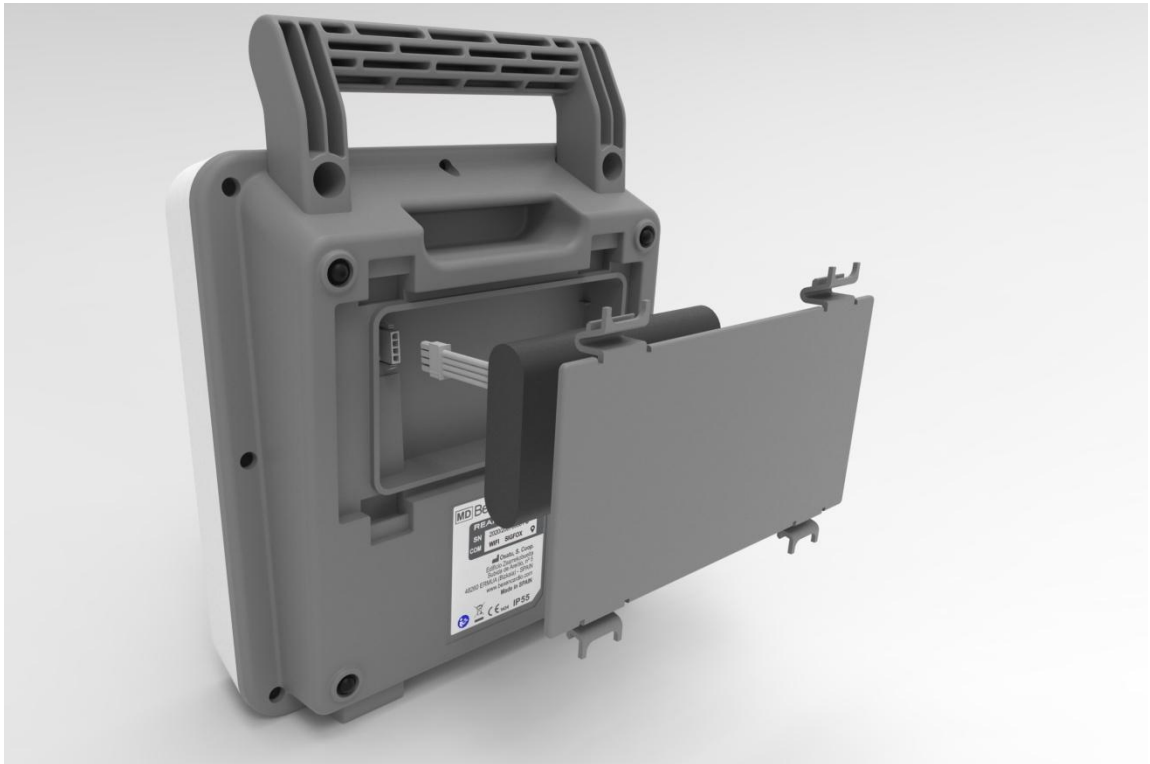

Figure 5: Battery installation
3. Place the battery on the battery compartment, as shown in **Figure 5**.